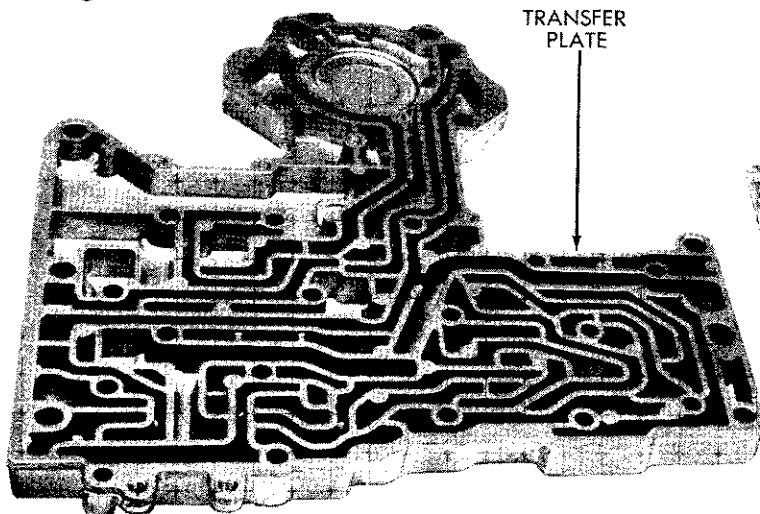

Fig. 42—Transfer and Separator Plate
(5) Remove 17 transfer plate retaining screws. Carefully lift transfer plate and steel separator plate assembly off the valve body.
(6) Invert transfer plate assembly and remove the stiffener plate. Remove remaining screws securing separator plate to the transfer plate, and carefully lift off the separator plate (Fig. 42).
(1) Place separator plate on the transfer plate (Fig. 42). Install stiffener plate and retaining screws exactly as shown. Make sure all bolt holes are aligned; then tighten stiffener plate screws to 28 inch-pounds.